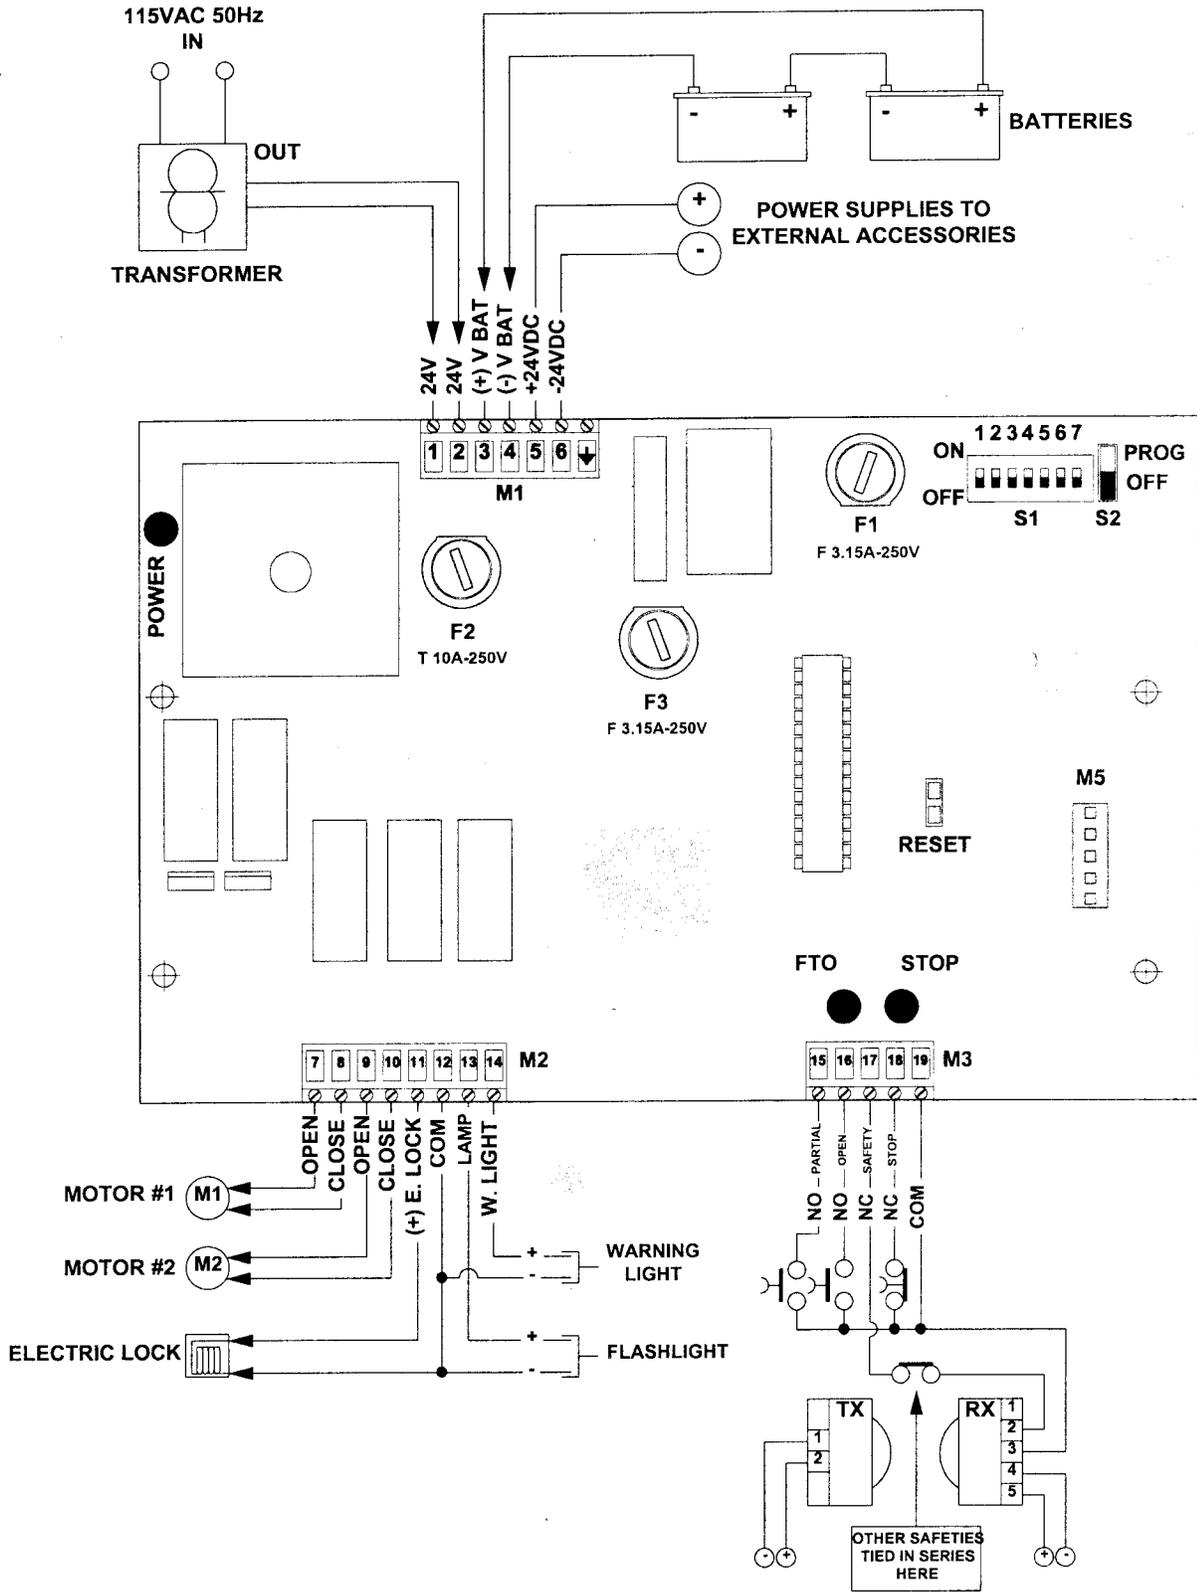

Figure 14. The 424 MPS layout and wiring diagram
Connect the two 12 volt, 7 amp hour batteries in series to terminals 3 and 4 on the M1 terminal block. (See Figure 14)
3. Turn the S2 switch (located to the right of the other DIP switches) to the PROG (ON) position. See figure 14. If you have a 24v flashlight connected to terminals 12 and 13, it should illuminate at this point.
5. If either gate moves toward the open position, touch the two RESET (JMP1) pins (located between the M5 connector and the microprocessor, see figure 14) with a small screwdriver or piece of wire. This will cause the gates to stop.